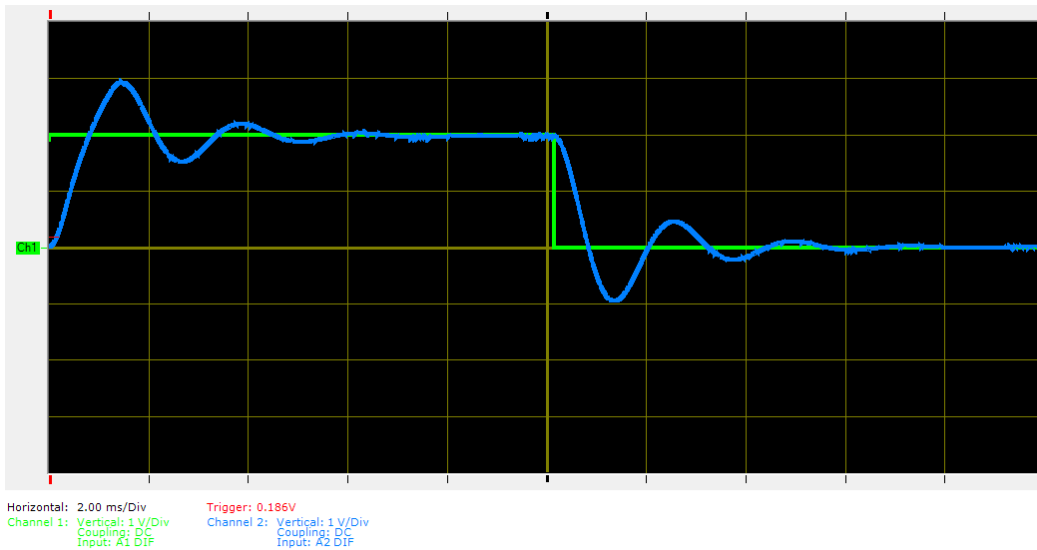
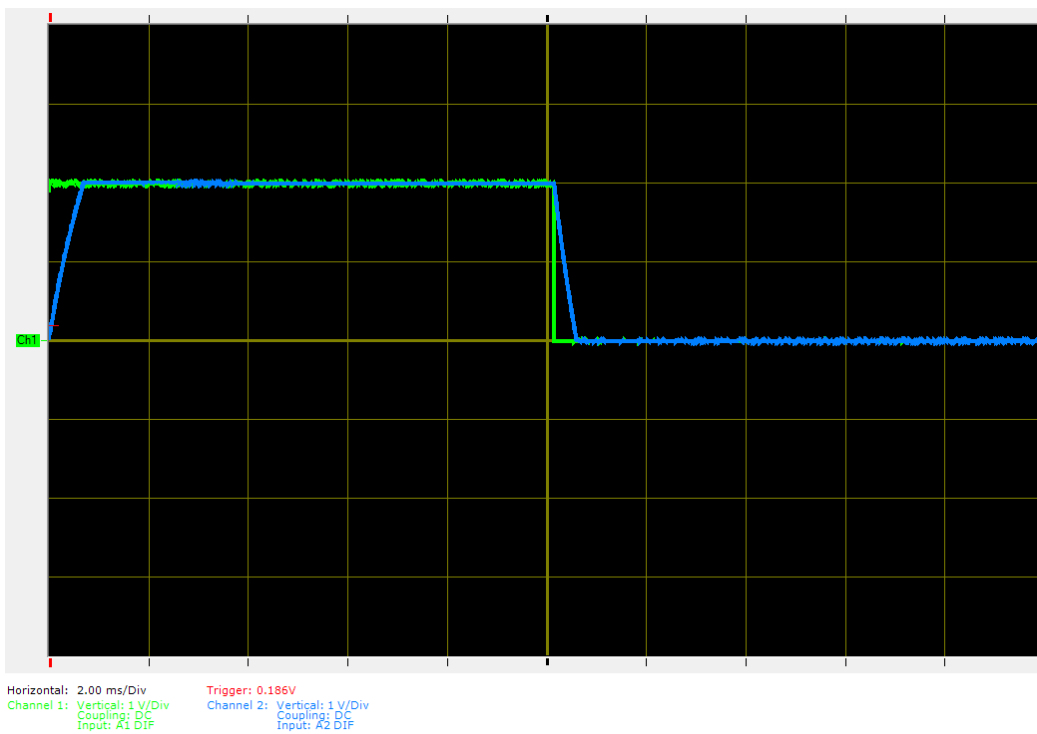

Figure 12. PI control of a first order system with 50% overshoot and a settling time of approximately 10 ms.
Figure 13. PI control of a first order system with 0% overshoot and a settling time of approximately 0.3 ms.
4) Adjust your controller so you get an output like that shown in figures 12 and 13 and *collect the two screen shots for your memo.* In particular, one screen shot (like Figure 12) should have a 50% overshoot and a settling time of approximately 10 msec, and the other screen shot (Figure 13) should have virtually no overshoot and a settling time of approximately 0.3 ms.